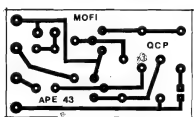

Fig. 6
- FIG. 6 - LAY OUT DO IMPRESSO DO MÓDULO FILHO (MOFI)